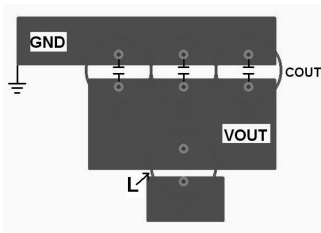

Fig 3. The placement and layout on switching output node
- The purple segment is the rectifier and power switch loop as described before. The only difference here is the implementation of synchronous rectifier structure, which improves the efficiency performance a lot. For the layout considerations, care must be taken to make sure the power stage components such as Q1, Q2, L1 and COUT1 as close as possible. Designers sometimes use parallel capacitors in the output filter to minimize voltage ripple in the load and to reduce the circuit's total resistance. However, it's important to ensure that the first parallel capacitor doesn't overheat from conducting a ripple current, which is higher than others. Furthermore, the power trace and return trace in the output stage should be as close as possible. They minimize the loop area between the two traces and increase coupling capacitors, as shown in figure 3.[4]